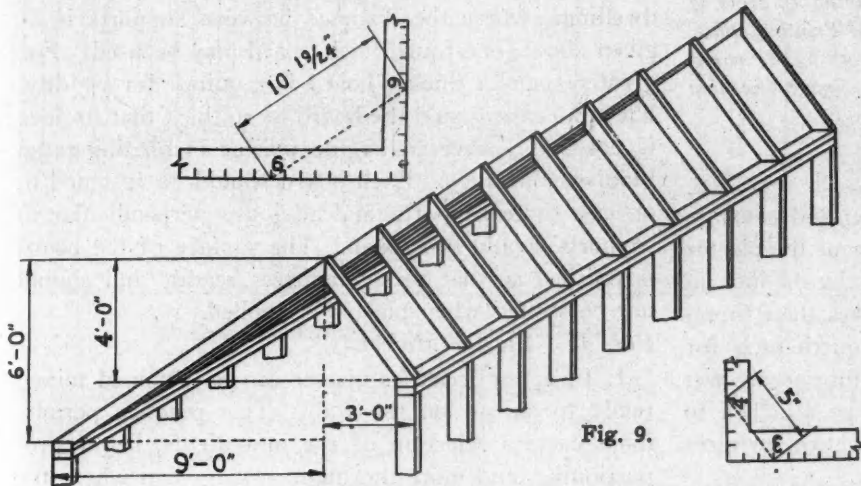

Fig. 9.
To further illustrate this we will find the length of the longest rafter shown in Fig. 9. The type of roof shown is often used on farm buildings, such as hog houses, granaries, and poultry houses.
- (3) What is the rise per foot run of each of the rafters shown in Fig. 9?